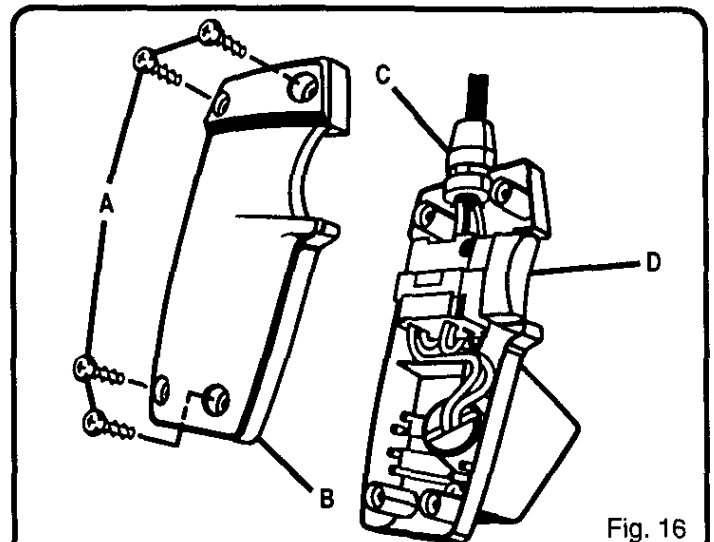

Fig. 16
See Figures 16 and 17.
- Remove screws (A) and handle cover (B). See Figure 16.
- Note the location of the molded bend relief (C) on the power handle cord. Also note all wiring in the handle and how each lead is connected to the switch. Connections and wiring position must be identical when installing new switch. See Figure 16.